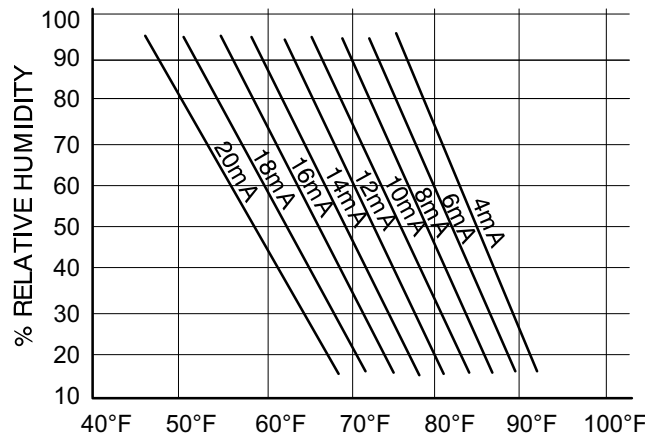

FIGURE 37
This setting pertains to the single enthalpy free cooling mode only. The M3 Unit Controller will enable free cooling when outdoor air enthalpy (A7) is less than the enthalpy set point (Parameter 162 - ECON FREECL ENTH SP). Figure 37 shows the approximate enthalpy sensor output at various temperatures and percentage of relative humidity.
- The reading will be between 4 and 20 ma. depending on outdoor temperature and humidity. Refer to figure 37 to approximate reading.